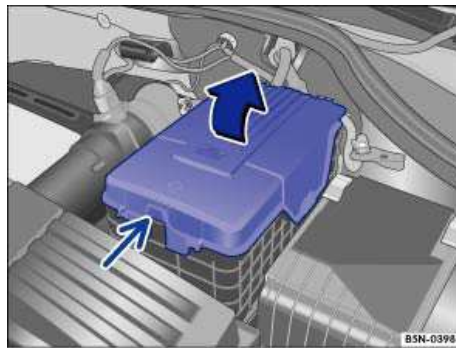

Fig. 174 In the engine compartment: Remove the cover from the vehicle battery.
- *With a hard cover* ⇒ fig. 174: Press on the tab (small arrow) and remove the cover upward.